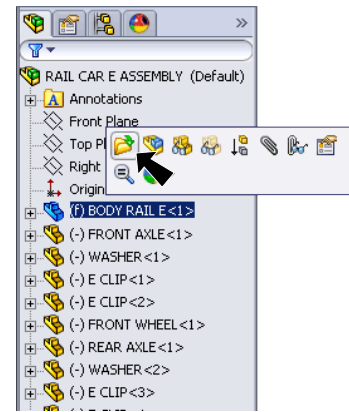

Fig. 37
Step 2. Click **BODY RAIL E** in the Feature Manager and click **Open Part**  from the Content toolbar, **Fig. 37**.